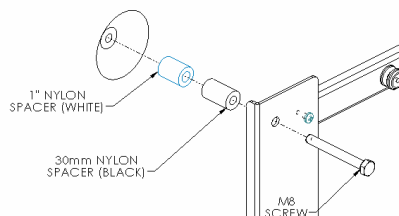
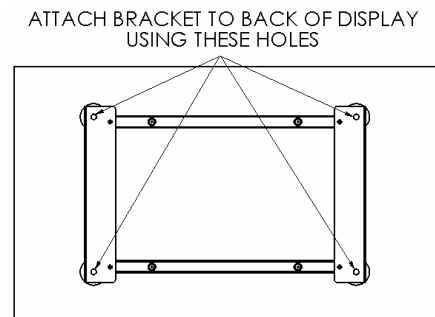

Figure 6
Figure 7
3. Stack 30mm (black) and 1" (white) spacers over each mounting hole on back of screen (total of 4). Attach mounting brackets to display using the M8 screws (see Figure 6 & Figure 7).